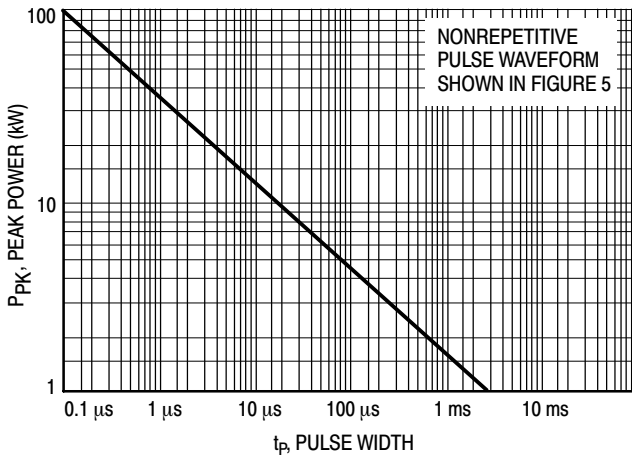
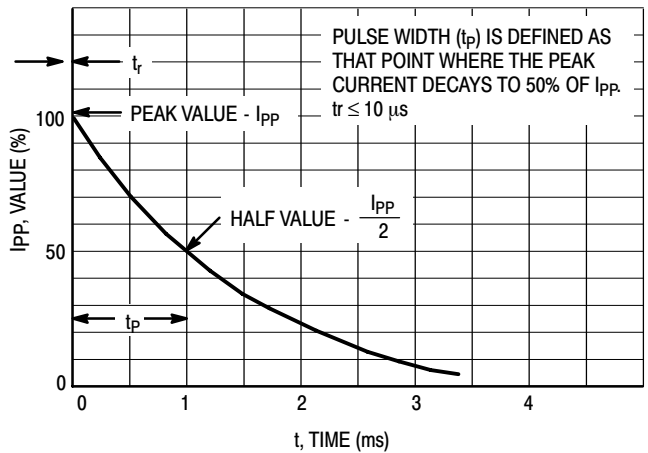
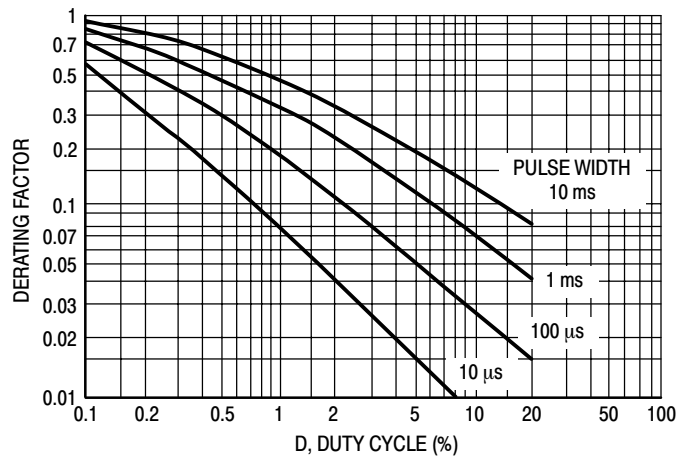

Figure 1. Pulse Rating Curve
Figure 5. Pulse Waveform
Figure 7. Typical Derating Factor for Duty Cycle
1. Nonrepetitive current pulse per Figure 5 and derated above $T_A = 25^\circ\text{C}$ per Figure 2.
7. Surge current waveform per Figure 5 and derate per Figures 1 and 2.
The data of Figure 1 applies for non-repetitive conditions and at a lead temperature of 25°C. If the duty cycle increases, the peak power must be reduced as indicated by the curves of Figure 7. Average power must be derated as the lead or
At first glance the derating curves of Figure 7 appear to be in error as the 10 ms pulse has a higher derating factor than
the 10 μ s pulse. However, when the derating factor for a given pulse of Figure 7 is multiplied by the peak power value of Figure 1 for the same pulse, the results follow the expected trend.